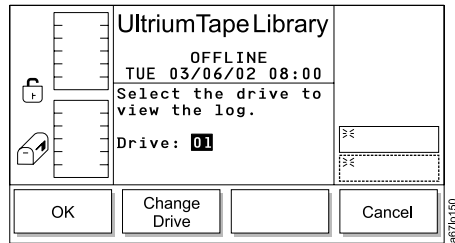

Figure 128. Select Drive Dialog
3. Press the button below the **Drive Log** softkey. The Select Drive Dialog displays (see Figure 128 on page 123).